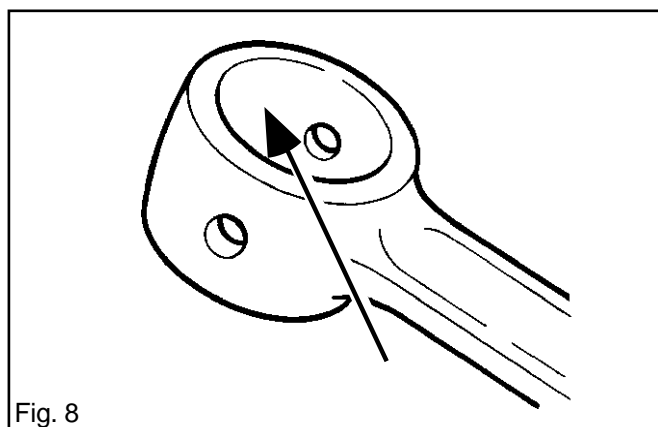

Fig. 8
3. The little end bearing surface is not scored or discoloured. See fig. 8.